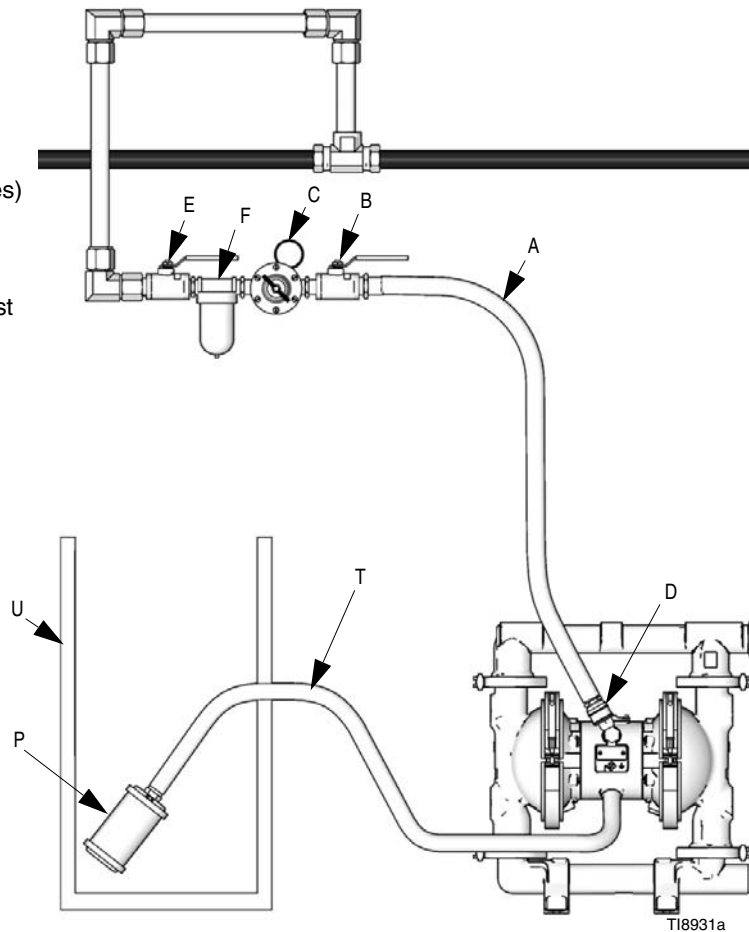

FIG. 4 Venting Exhaust Air
- place an appropriate container at the end of the air exhaust line to catch fluid. If a diaphragm ruptures, the fluid being pumped will exhaust with the air. See FIG. 4.
1. Remove the muffler (P) from the pump air exhaust port.
2. Install a grounded air exhaust hose (T) and connect the muffler (P) to the other end of the hose. The minimum size for the air exhaust hose is 19 mm (3/4 in.) ID. If a hose longer than 4.57 m (15 ft.) is required, use a larger diameter hose. Avoid sharp bends or kinks in the hose.
3. Place a container (U) at the end of the air exhaust line to catch fluid in case a diaphragm ruptures. See FIG. 4.